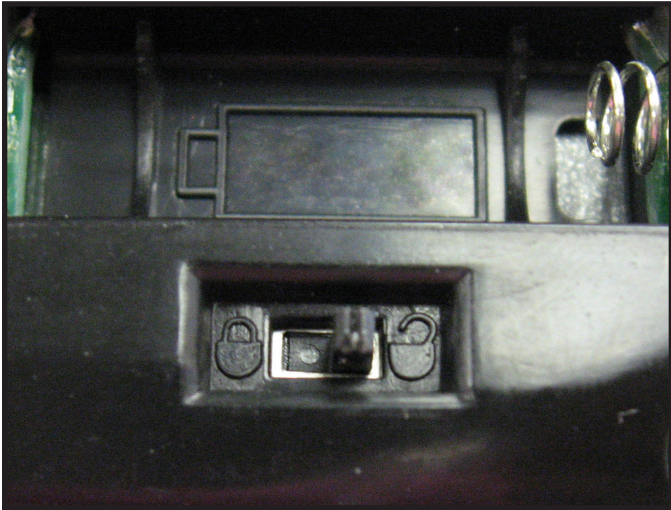

Figure 7. Child Lock Switch
- Remove battery cover from the back of the remote by sliding it down. Slide the child lock switch to enable or disable the child lock feature. See Figure 7.